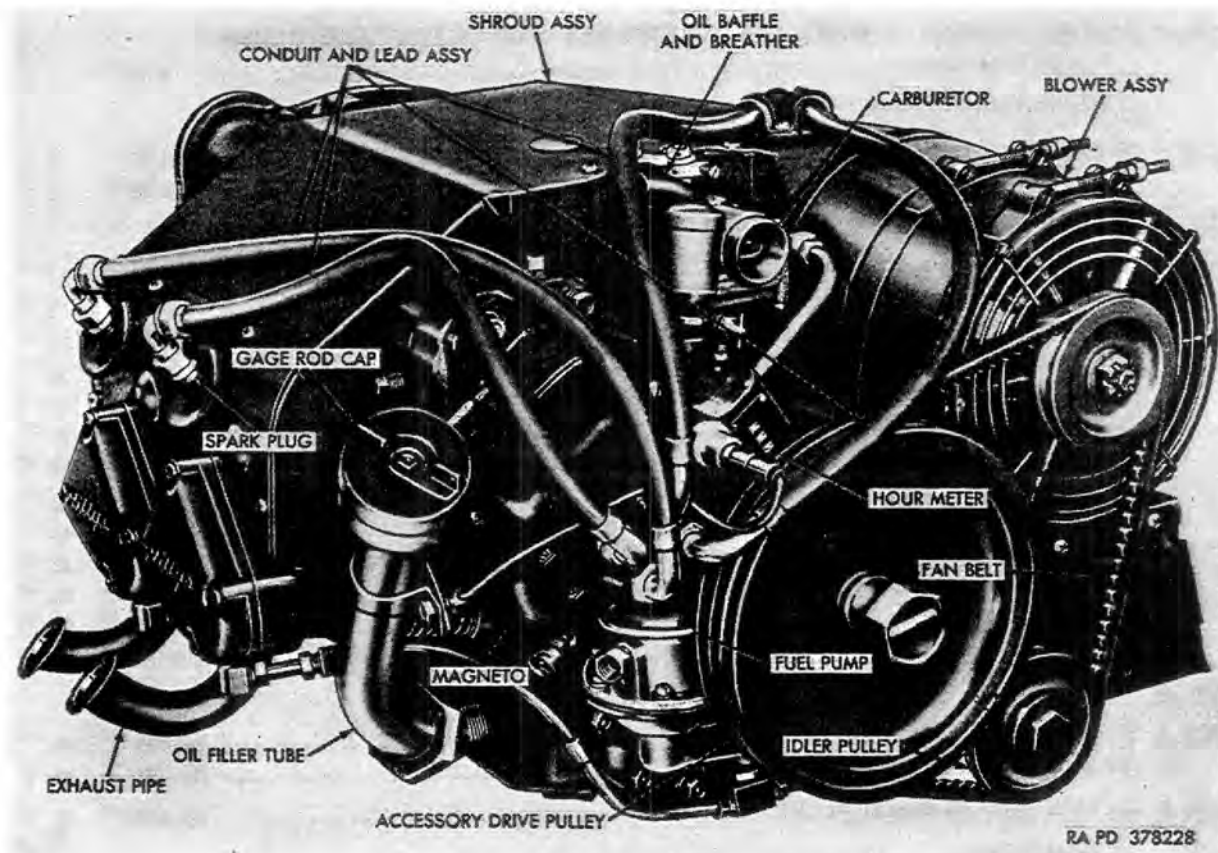

Figure 1. Right-Front view of engine and clutch.
a. This manual contains instructions for field and depot maintenance of Willys Model AO-4-53 engine and clutch (figs. 1 and 2). It contains descriptions of, and procedures for, disassembly, inspection, repair, rebuild, and assembly of the engine and clutch.
a. The Willys Model AO-4-53 engine (figs. 1 and 2) is an assembly consisting of engine and clutch. The assembly is a self-contained group and is removed and installed as a unit. The engine is a four cylinder, air cooled, horizontally opposed, four
b. The engine is cooled by a belt-driven fan inclosed in a housing and baffle assembly which is referred to as the blower assembly (fig. 1). The blower circulates air around the cylinders, cylinder
c. Spark for fuel ignition is provided by a magneto (fig. 1). The magneto is connected to spark plugs by radio shielded conduit and lead assemblies.
e. A float type carburetor (fig. 1), mounted on the intake manifold, supplies metered fuel to the cylinders. A mechanically operated, diaphragm type fuel pump (fig. 1) delivers fuel to the carburetor. Refer to TM 9-7503-35 for repair and rebuild procedures for fuel pump.
f. The engine is ventilated by an oil baffle and breather (fig. 1) which prevents loss of oil when the engine is in an inverted position.
g. An hour meter (fig. 1), mounted on the accessory drive bracket and geared to the accessory drive shaft, registers the number of hours of engine operation based on an average of 2000 rpm (revolutions per minute) per hour.